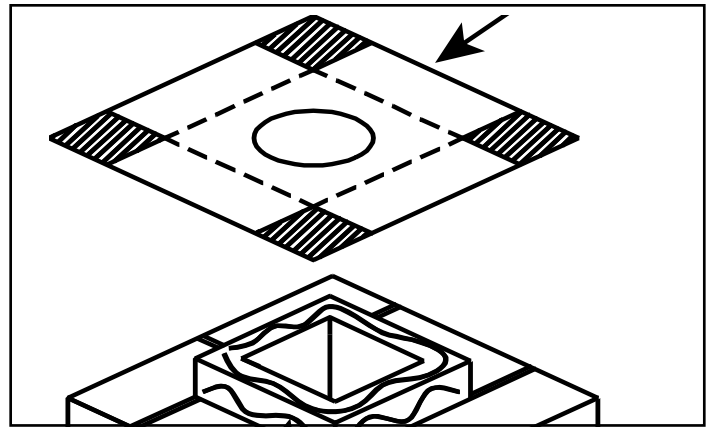

Figure 4.18
3. Secure the flashing to the top of the masonry chimney using a bead of non-hardening sealant-adhesive. If the flashing is larger than the top of the chimney, cut and fold flashing as needed to fit chimney. See Figure 4.18.